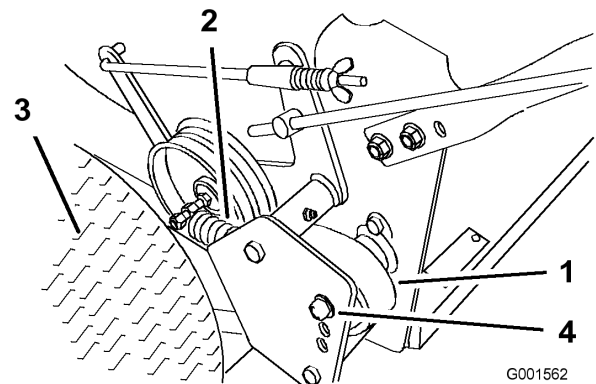

Figure 30
1. Remove hairpin cotter securing brake rod to brake arm to relax belt idler tension (Figure 30).
2. Remove bottom and loosen top bolts of shield to rotate for belt clearance (Figure 30).
3. Lift the belt past idler and off the drive pulley (Figure 30).
6. Secure shield with previously removed bolt and tighten bolts (Figure 30).
7. Secure brake rod to brake arm with hairpin cotter (Figure 30).